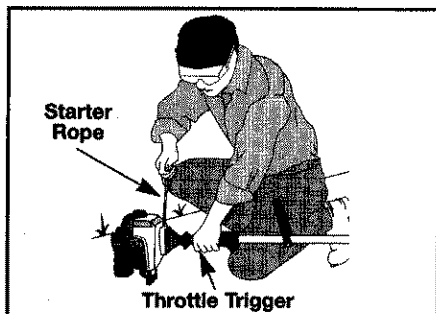

Fig. 9
5. **WITH THE UNIT ON THE GROUND, SQUEEZE THE THROTTLE TRIGGER FULLY AND PULL THE STARTER ROPE BRISKLY** (Fig. 9) until the engine sounds like it wants to run (normally 2 to 5 pulls).
7. **PULL THE STARTER ROPE BRISKLY 1 TO 3 TIMES TO START THE ENGINE** (Fig. 9).